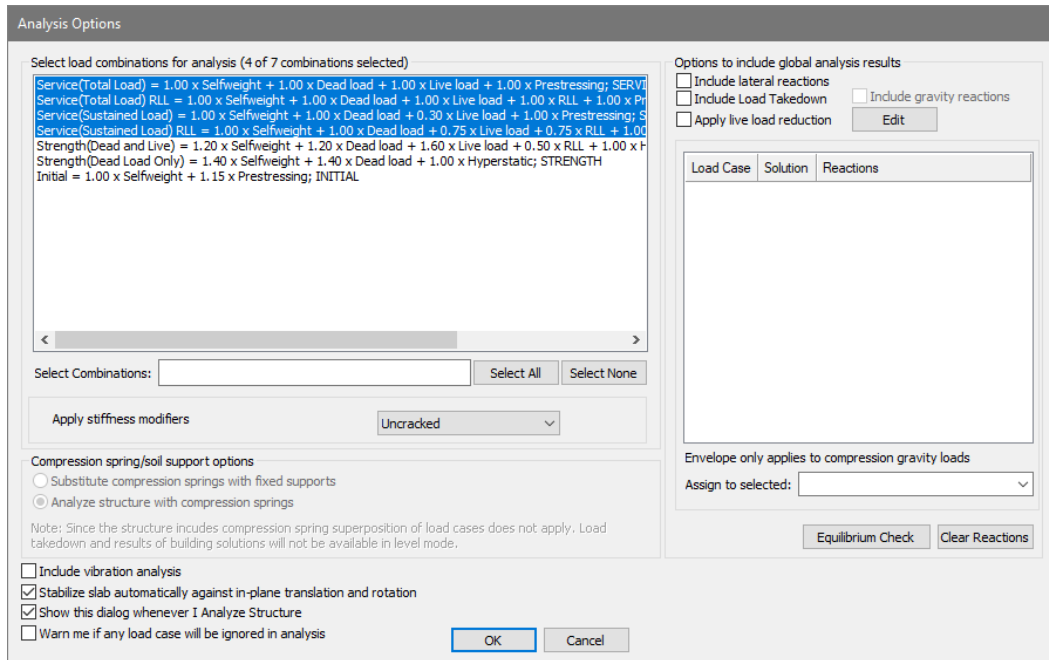

Figure 9-73
- **Left-click** the top combination *Service (Total Load)* and while holding the left-mouse button drag your mouse to the *Service (Sustained Load) RLL* load combination. This should drag highlight these 4 load combinations as shown in **FIGURE 9-73**.